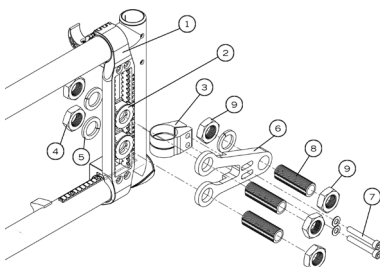

Fig. 42
- Install mounting plate (1) (Fig. 42) by closing the clamps around the frame.
- Insert a second axle receiver (2) on the axle plate
- Install the back clamp (3) onto the rear of the frame.
- Insert two axle bushing (8) through axle plate (6) and in the two axle receiver (2) and secure with bolt and washer (4)(5).
- Insert two screws (7) into amputee axle plate through the mounting clamp and tighten.
- Insert axle bushing (8) through the amputee plate and tighten nuts (9).